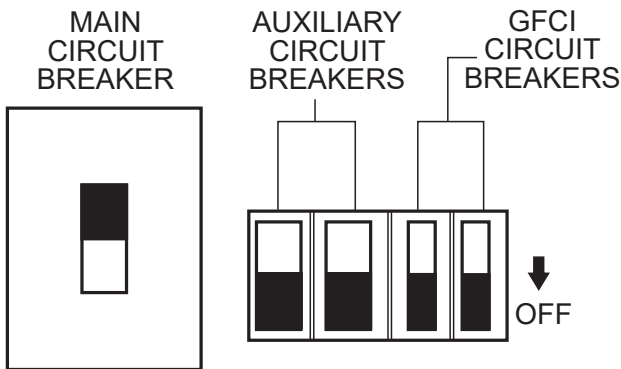

Figure 28. Main, Aux. and GFCI Circuit Breakers (OFF)
1. Place the **main, GFCI, and aux.** circuit breakers (Figure 28) in the **OFF** position prior to starting the engine.